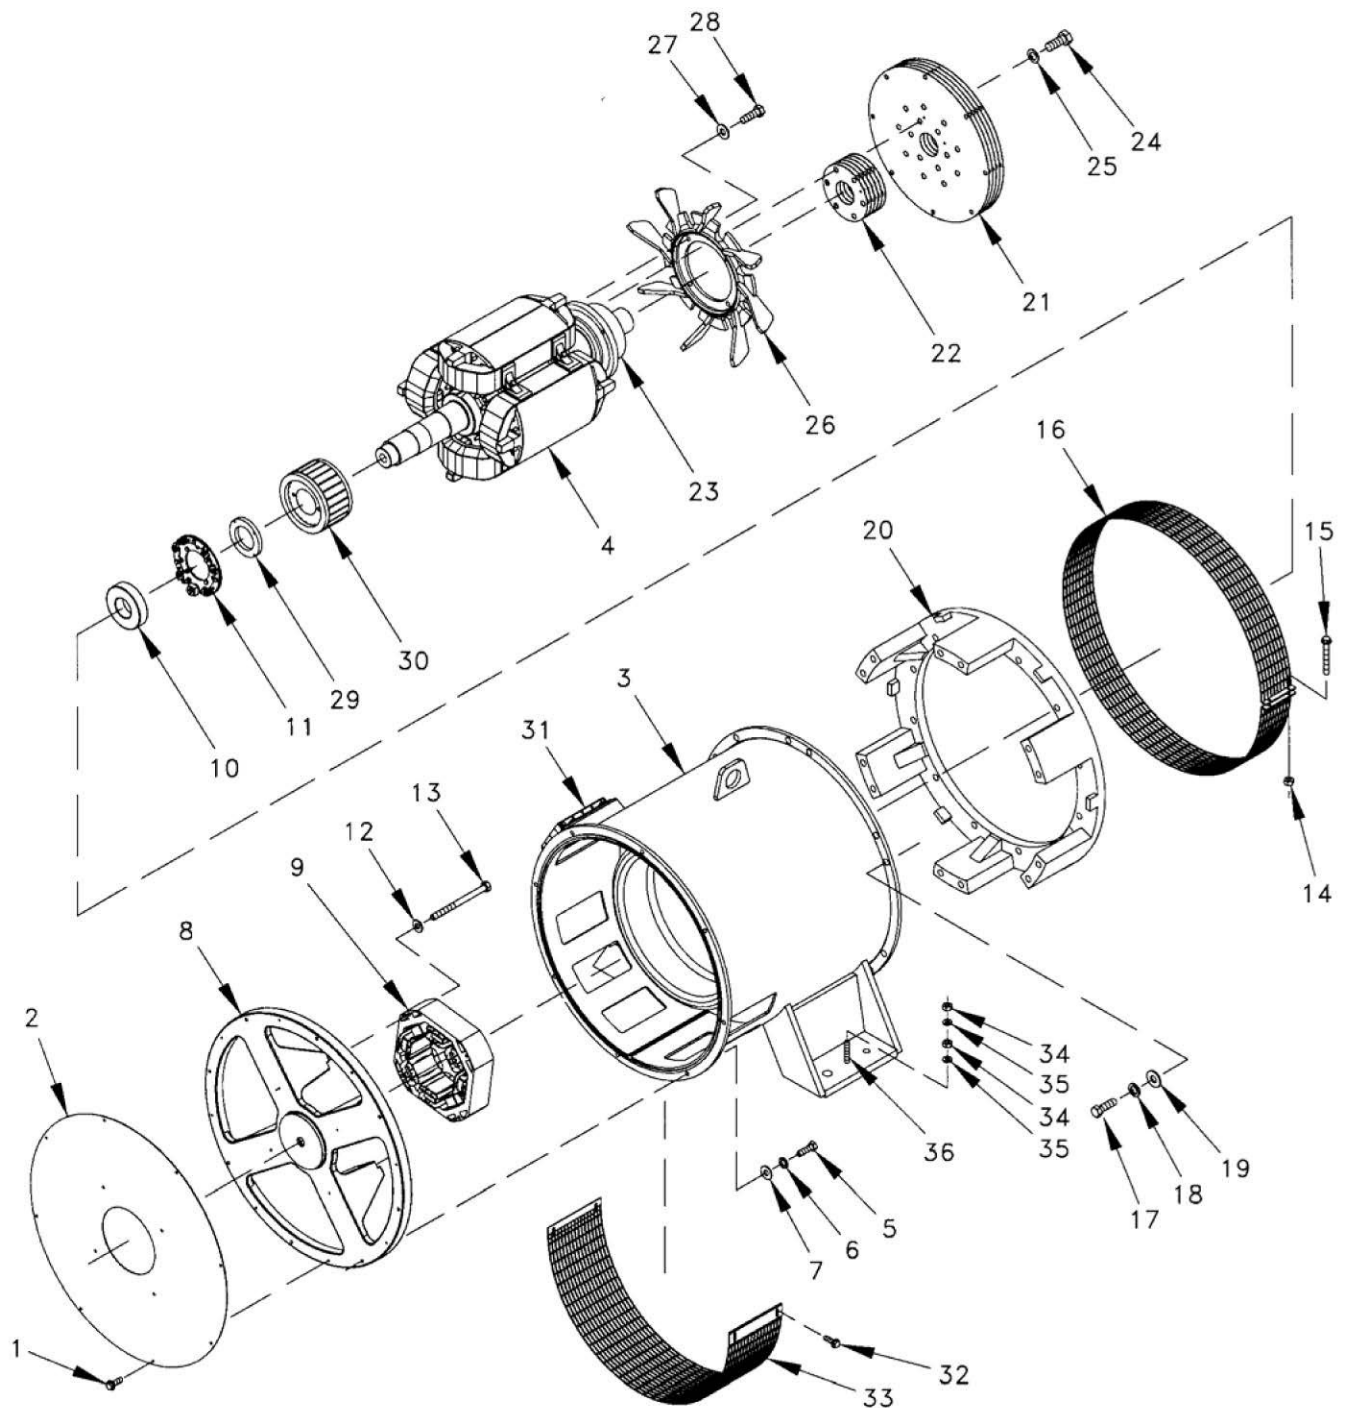

Figure 1. Generator Repair.
1. Remove twelve screws (Figure 1, Item 1) and cover (Figure 1, Item 2) from body assembly (Figure 1, Item 3).
2. Bar rotor (Figure 1, Item 4) so that two main rotor poles are vertical in body assembly (Figure 1, Item 3).
3. Remove eight screws (Figure 1, Item 5), lock washers (Figure 1, Item 6), nuts (Figure 1, Item 7), and bearing bracket (Figure 1, Item 8) with exciter stator (Figure 1, Item 9) attached.
4. Use bearing puller to remove bearing (Figure 1, Item 10) from shaft of rotor (Figure 1, Item 4) and discard bearing.
5. Remove rotating rectifier (Figure 1, Item 11) from rotor (Figure 1, Item 4).
6. Note orientation of Belleville washers (Figure 1, Item 12) and remove four screws (Figure 1, Item 13), Belleville washers (Figure 1, Item 12), and exciter stator (Figure 1, Item 9) from bearing bracket (Figure 1, Item 8).
7. Remove two nuts (Figure 1, Item 14), screws (Figure 1, Item 15), and exhaust screen (Figure 1, Item 16).
8. Remove 16 screws (Figure 1, Item 17), lock washers (Figure 1, Item 18), washers (Figure 1, Item 19), and flywheel housing adapter (Figure 1, Item 20).
9. Use suitable rotor lifting device to carefully remove rotor (Figure 1, Item 4) and attached parts from body assembly (Figure 1, Item 3).
10. Mark drive discs (Figure 1, Item 21), spacer discs (Figure 1, Item 22), and drive hub (Figure 1, Item 23) for proper alignment during assembly.
11. Remove six screws (Figure 1, Item 24), washers (Figure 1, Item 25), five drive discs (Figure 1, Item 21) and six spacer discs (Figure 1, Item 22) from drive hub (Figure 1, Item 23).
12. Mark fan (Figure 1, Item 26) and drive hub (Figure 1, Item 23) for proper alignment and balancing of fan during assembly.
13. Note orientation of Belleville washers (Figure 1, Item 27) as they are removed, and remove four screws (Figure 1, Item 28), Belleville washers (Figure 1, Item 27), and fan (Figure 1, Item 26) from drive hub (Figure 1, Item 23).
14. Install suitable puller to drive hub (Figure 1, Item 23) Use torch to rapidly heat only outside diameter of drive hub (Figure 1, Item 23) (to avoid expanding rotor shaft while tightening puller). Remove drive hub (Figure 1, Item 23) from rotor (Figure 1, Item 4).
15. Remove rectifier mounting hub (Figure 1, Item 29) and exciter rotor (Figure 1, Item 30) from rotor (Figure 1, Item 4).
16. If necessary, remove lead block assembly (Figure 1, Item 31).
17. Remove four screws (Figure 1, Item 32) and intake air screen (Figure 1, Item 33).
19. Remove two nuts (Figure 1, Item 34), two lock washers (Figure 1, Item 35), and grounding stud (Figure 1, Item 36).